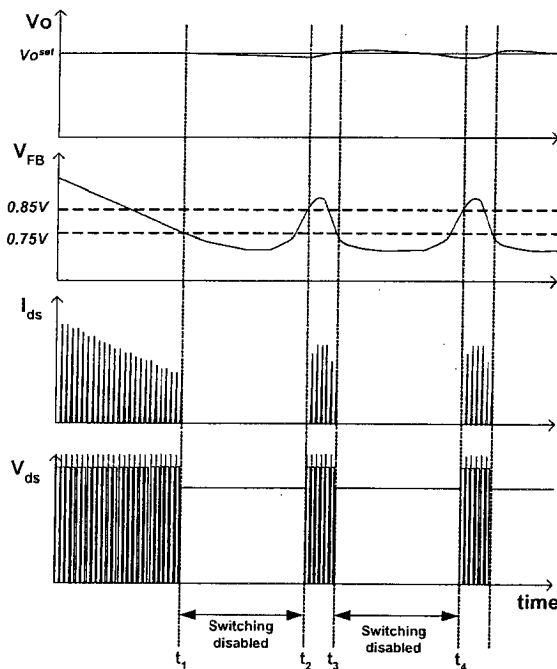

Figure 18. Burst-Mode Operation
6. Burst-Mode Operation: To minimize power dissipation in standby mode, the FPS enters burst-mode operation. As the load decreases, the feedback voltage decreases. As shown in Figure 18, the device automatically enters burst mode when the feedback voltage drops below V_{BURL} (750mV). At this point, switching stops and the output voltages start to drop at a rate dependent on standby current load. This causes the feedback voltage to rise. Once it passes V_{BURH} (850mV), switching resumes. The feedback voltage then falls and the process repeats. Burst-mode operation alternately enables and disables switching of the SenseFET, thereby reducing switching loss in standby mode.